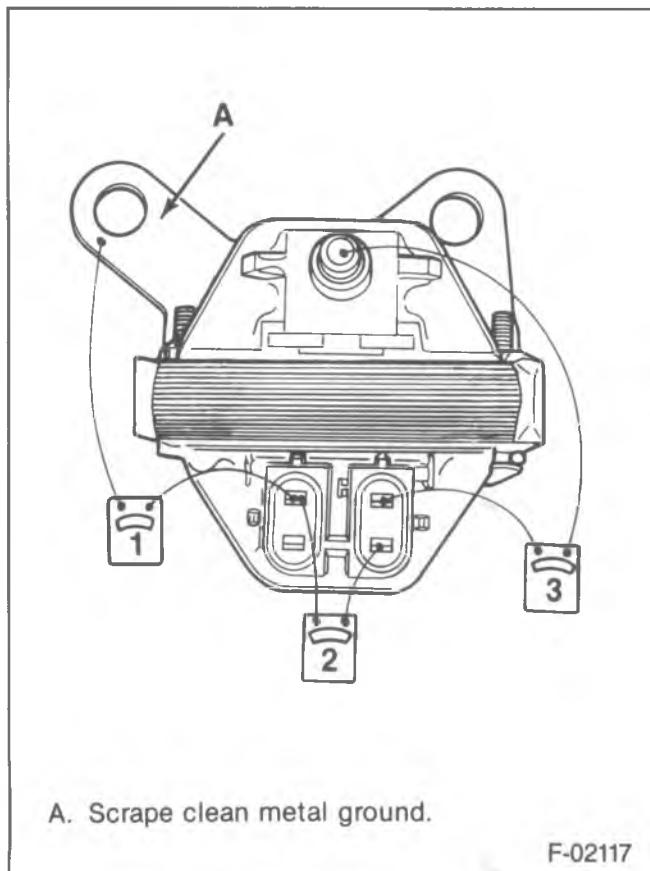

Figure 65—Testing the Ignition Coil
- Connect the ohmmeter as shown in figure 65, step 1. Use the high scale. The reading should be infinite. If not, replace the coil.